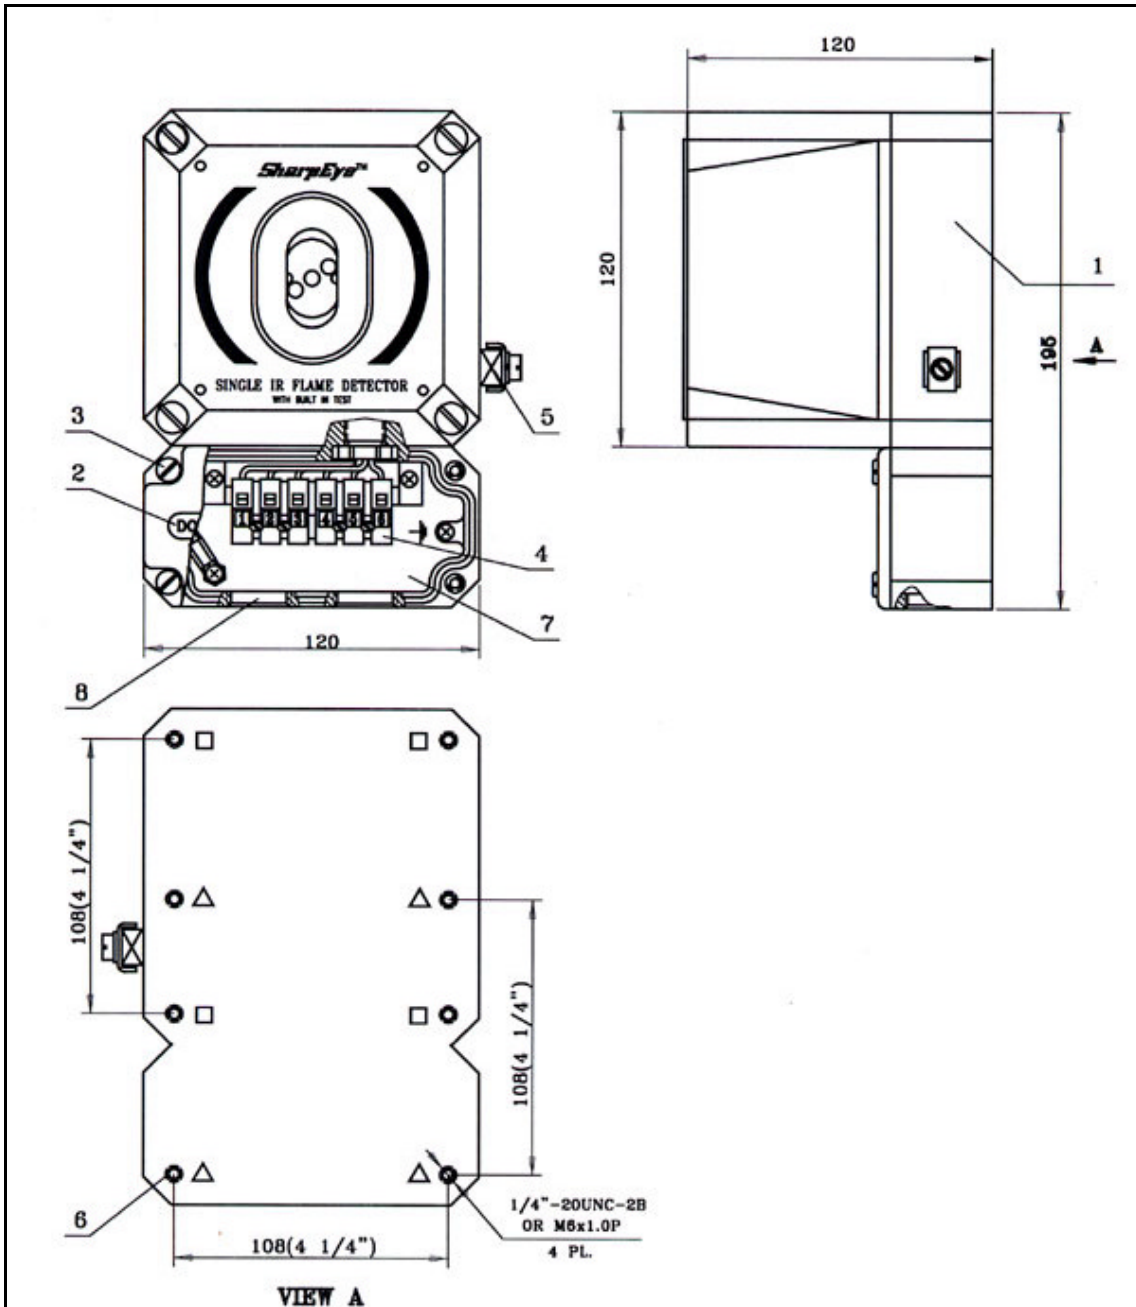

Figure 18: Flame Detector Assembly - Wiring Diagram
The EExde approved version provides an additional EExe terminal box attached below the EExd detector and therefore allows easier access for wiring in difficult environments and hazardous areas (see fig. 18). The unit is prewired to the terminals in the additional EExe terminal section ready for field wiring connections
- 3 Place the detector, with its cond uit inlets pointing down, on the holding plate of the swivel mount (Fig. 8 item 7). Secure the detector by four (4) M6 screws with M6 spring washers from the Swivel Mount Kit using the holes (Fig. 9 item 5). You can use the thread on the modified cover (Fig. 18 item 1) marked either triangle symbol or square symbol. Use No. 5 Hex Key for M6 screws.
## 2. WIRING (REFER TO FIG. 18.)